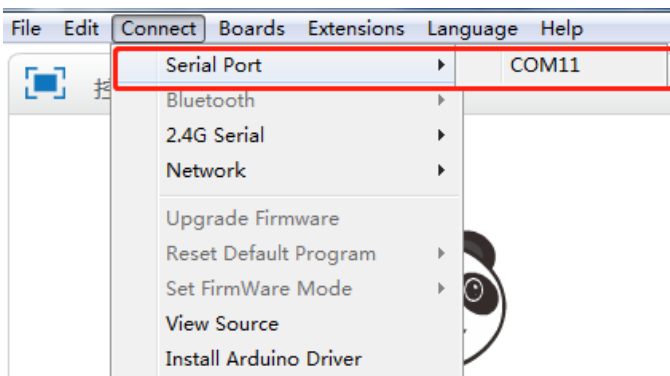

Figure 2-11
- 3) Click “Connect→Serial port→COM4 (the number of COM port is different for different computers)”, as shown in Figure 2-11. After the correct connection, there will be a